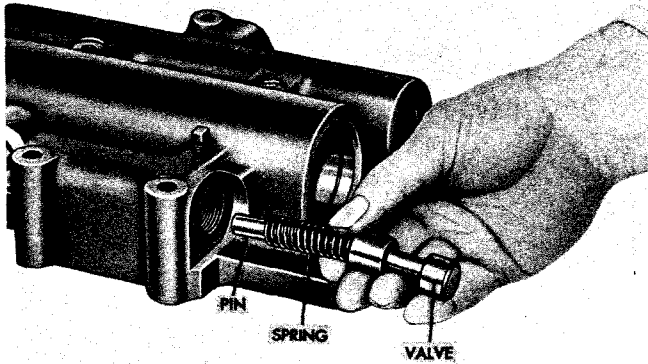

Fig. VI-1. Installing clutch cutoff valve components—early model
c. Assembly (item 5, A, foldout 15)
(1) Install pin 21 into spring 22. Install the spring and pin into the recessed end of valve 20.
(2) Install the assembled valve, spring and pin, spring first, into the valve body (fig. VI-1).
(3) Install seal ring 17 and cup 16 onto plug 18. Install plug 18, cup-end first, into retainer plug 15.